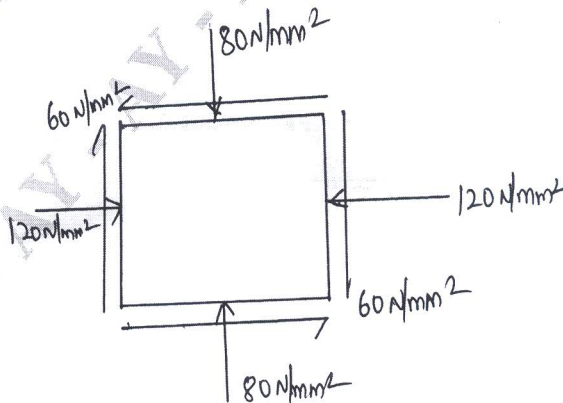

Fig Q3(b)
- b. The state of stress in 2 dimensionally stressed body is shown in Fig Q3(b). Determine the principal stresses, principal planes, maximum shear stress and their planes, also draw the Mohr's circle to verify the results obtained analytically.